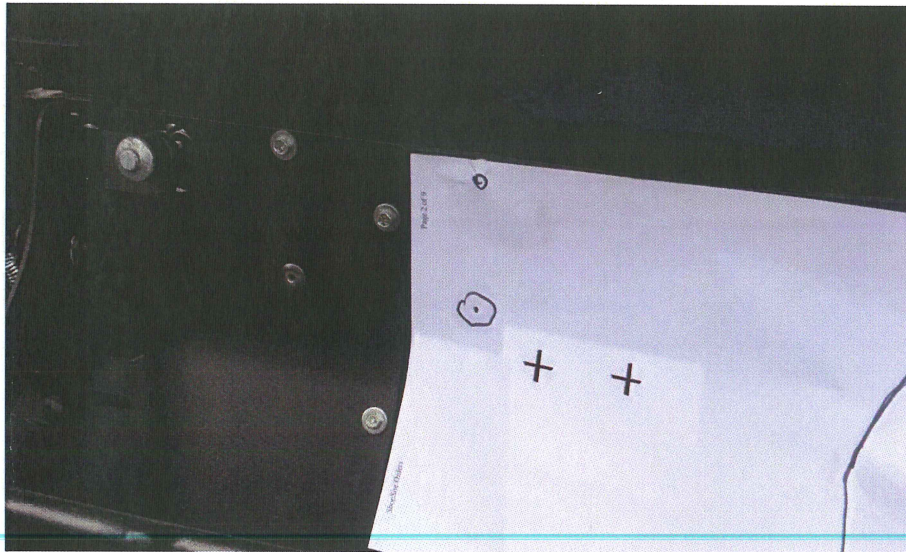

Figure 1
1. Cut out the Heater Hose Hole Template and position it on the firewall as shown in Figure 1 and as stated on template.